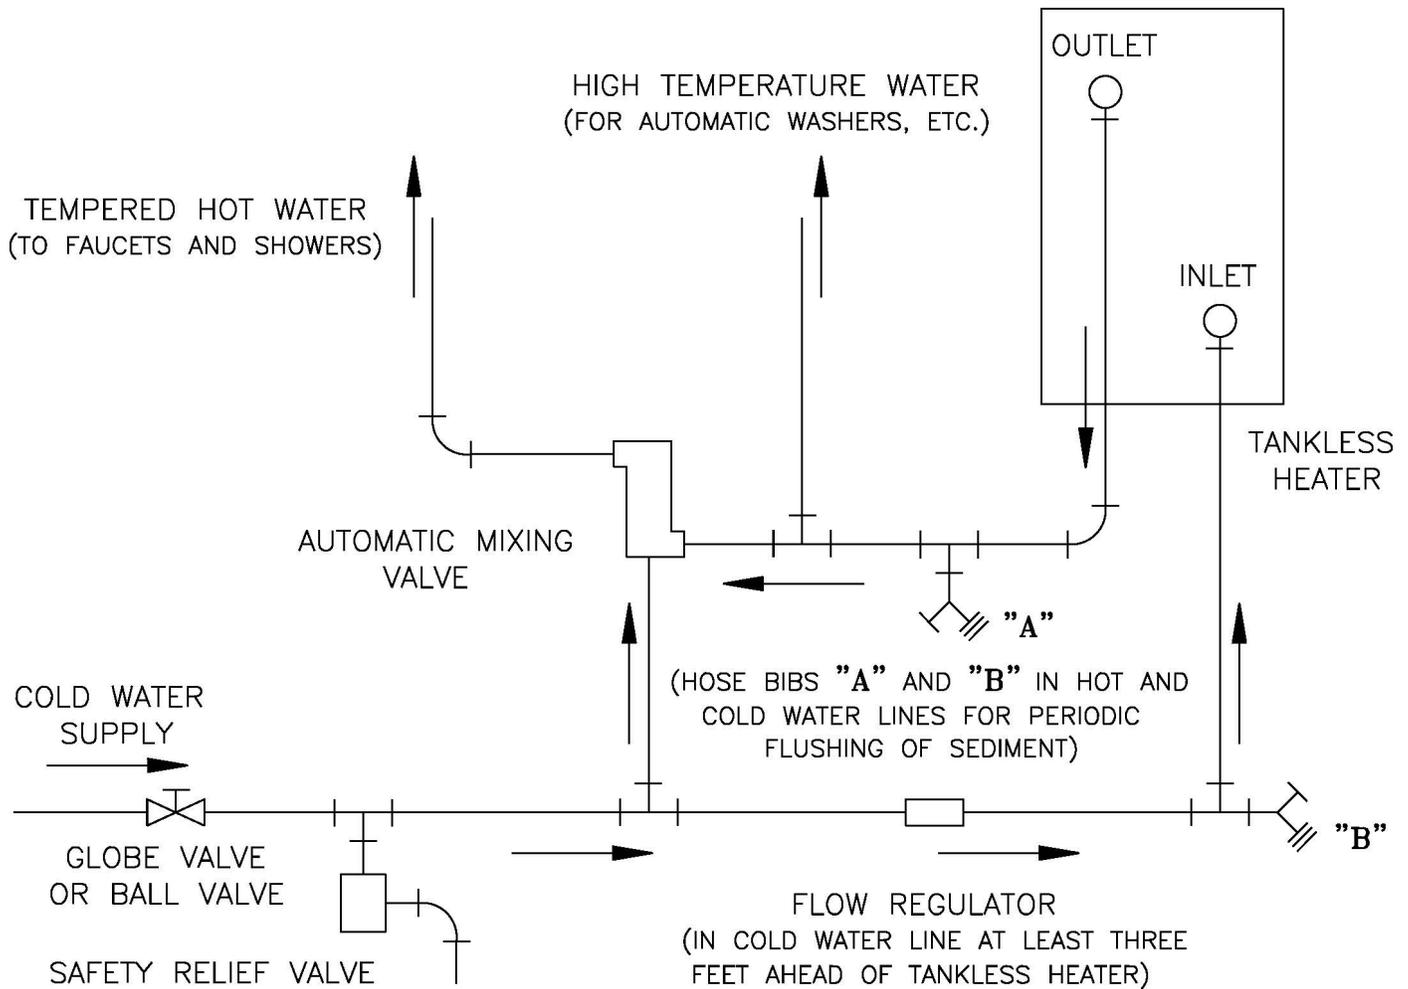

Figure 4-1: Schematic Tankless Heater Piping
- A. CONNECT TANKLESS HEATER PIPING as shown in Figure 4-1. See Table 4-2 for Tankless Heater Rating.
2. TEMPERING OF HOT WATER — Installation of an automatic mixing valve will lengthen the delivery of the available hot water by mixing some cold water with the hot. This prevents the possibility of scalding hot water at the fixtures. In addition, savings of hot water will be achieved since the user will not waste as much hot water while seeking a water temperature. Higher temperature hot water required by dishwashers and automatic washers is possible by piping the hot water from the heater prior to entering the mixing valve. The mixing valve should be "trapped" by installing it below the cold water inlet to heater to prevent lime formation in the valve. Refer to Figure 4-1.